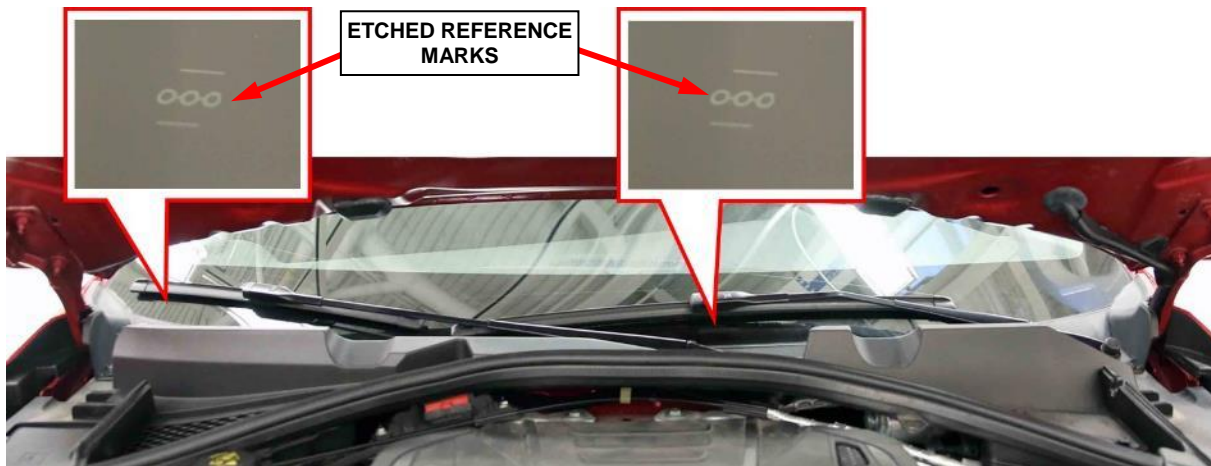

Figure 19 – Windshield Wiper Arm Alignment
16. Place the windshield wiper arm in position aligning the wiper blade with the references etched on the windshield (Figure 19).